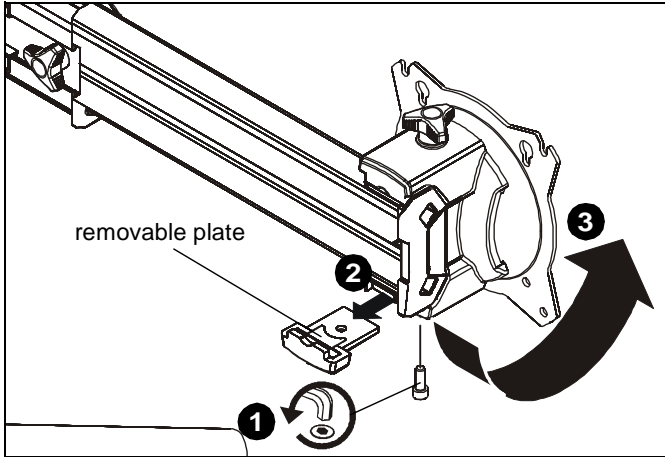

Figure 21
1. Remove hex head bolt from bottom of faceplate assembly. (See Figure 21)
2. Slide out removable plate from bottom of faceplate assembly. (See Figure 21)
3. Remove faceplate assembly from array arm. (See Figure 21)